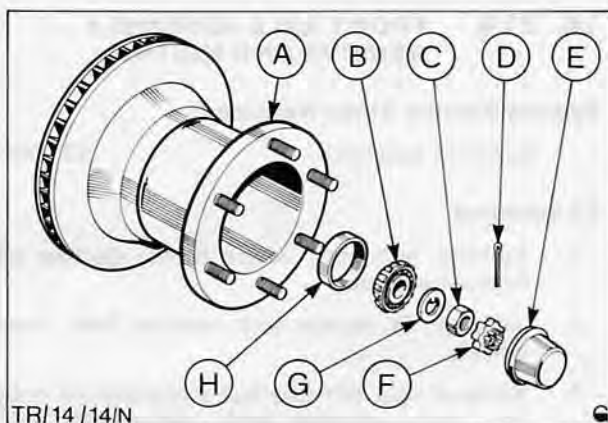

Fig. 14. Front hub and bearing assembly
- Remove wheel bearing dust cap from hub. Remove split pin, nut retainer, adjusting nut, washer and outer bearing, Fig. 14.